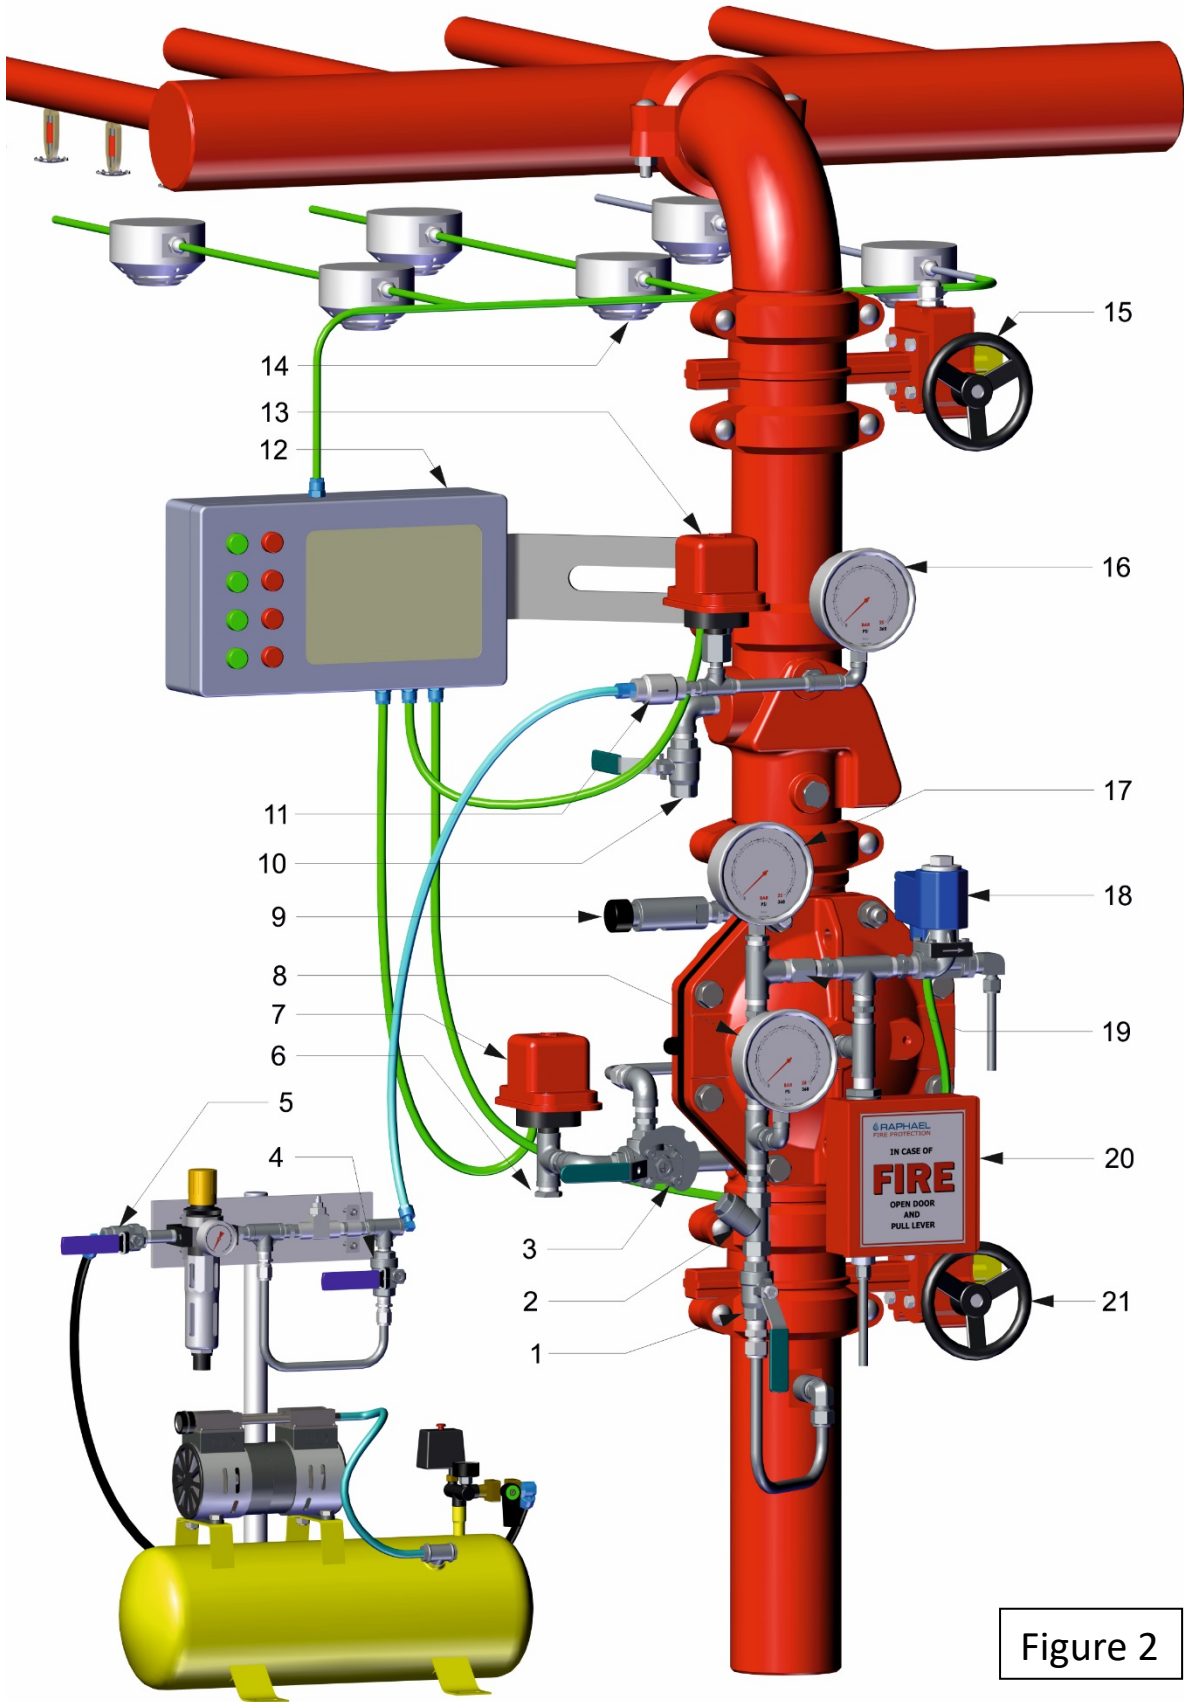

Figure 2
Series of smoke/Heat detectors are installed over the protected area and connected electrically to the main FP control board (12 figure 2).
Installation (reference - figure 2)
8. All connections to water supply, alarms etc. should be done in accordance with figure 2:
(reference - figure 2)
(Reference drawing - figure 2)
After a real fire situation, make sure that the SOV is closed by de-energizing its coil (through the FP main control board). (Reference drawing - figure 2)